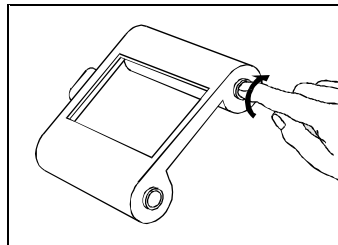

Figure 6-33. Tightening the Ink Paper
3. Check the tension of the ink paper in the cartridge. If it is loose, tighten it (Figure 6-33).